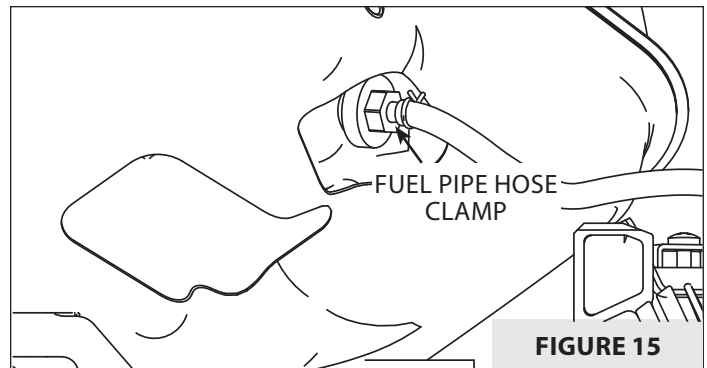

FIGURE 15
6. Gently lift tank off of the engine and disconnect the fuel line hose clamp. **SEE FIGURES 15 AND 16.**